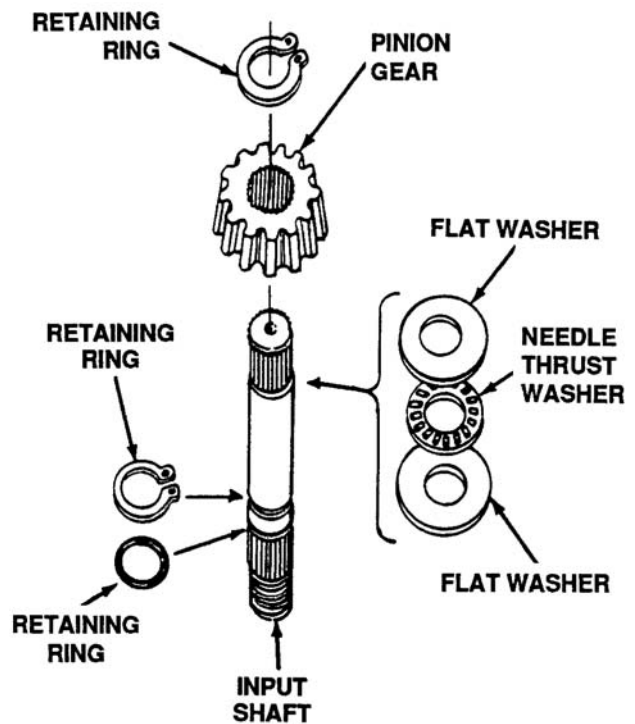

Figure 5-52. Input Shaft Thrust Washer
- Remove the pinion gear, 2 flat washers and needle thrust washer and pull the input shaft out of the housing. See Figure 5-52.
3. The input shaft has needle bearings and also incorporates a thrust washer bearing assembly for higher speeds with minimal wear. See Figure 5-52 and 5-65. The housing is heavy aluminum die cast. This section will demonstrate the disassembly, inspection, and reassembly of the MTD 2 speed transaxle, part number 618-0229.